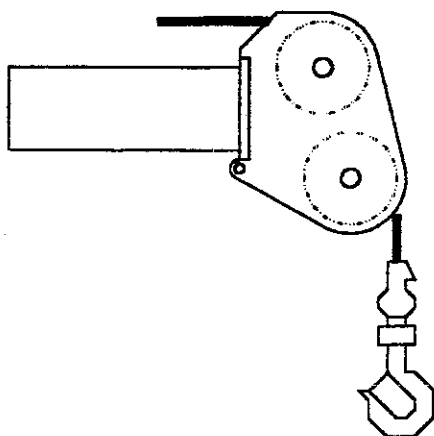

Figure I-1. One-Part Line Configuration
6. The actual distance used should be figured as the larger of items 4 and 5 above.
9. If a winch is used for the lift, make certain the load does not exceed the winch or winch line capacity. See Figures I-1, I-2 and I-3.
8. Make certain that 2-part line is used for any lift which requires 2-part line. See Figures I-1 and I-2.